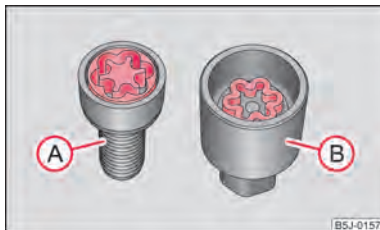

Fig. 145 Illustration image: Safety wheel bolt with adapter
- Insert the adapter (B) with its toothed side into the inner tothing of the head of the safety wheel bolt (A ⇒ fig. 145).
- Insert the wheel wrench fully onto the adapter (B).